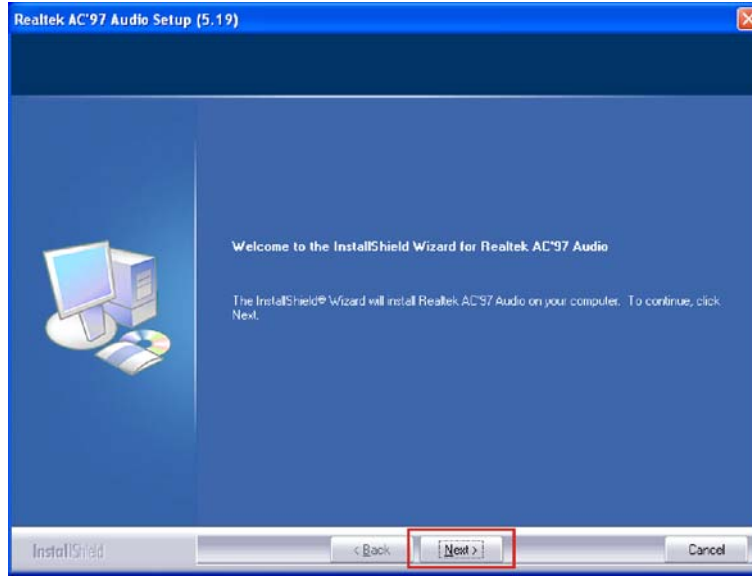

Figure 7-24: AC'97 Driver Installation Welcome Screen
Step 4: The AC'97 Driver Installation screen in Figure 7-24 appears.